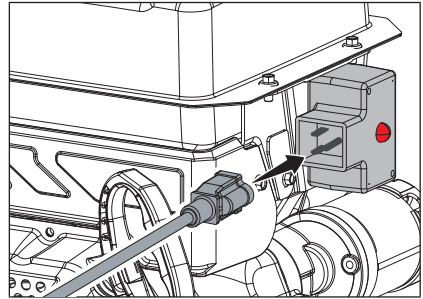

Figure 14
5. Alternatively, for electric start, plug in the supplied electrical cord into the starter. Press the electric start button and make sure that the main supply voltage is 120 V~ 60 Hz (Fig. 14).